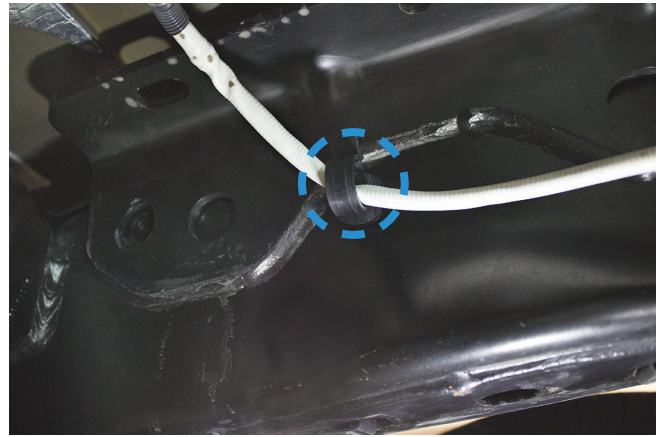

Fig. 28
- To install the passenger's (right) side upper brace (F) locate the clip (blue circle Fig. 28) that holds the wiring harness for the O₂ sensor. Remove and discard the clip as it will no longer be needed.